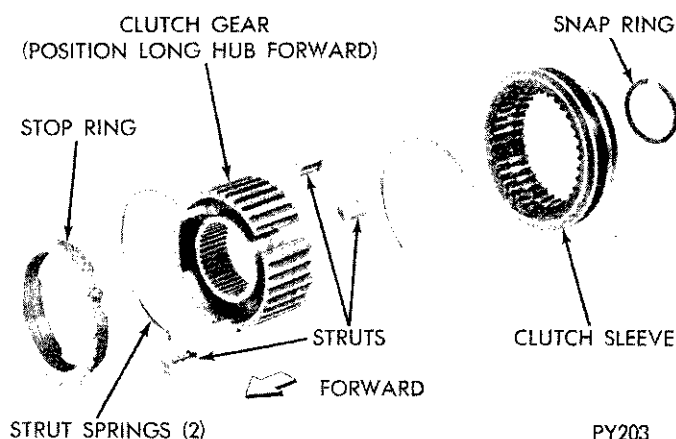

Fig. 28—1st-Reverse Synchronizer—Disassembled
- (13) Sub assemble the synchronizer parts in the order shown in (Figs. 28, 29 and 30) as follows: Place a stop ring flat on the bench followed by the clutch gear and sleeve. Drop the struts in their slots and snap in a strut spring placing the tang inside one strut. Turn the assembly over on the stop ring and install second strut spring with tang in a different strut.